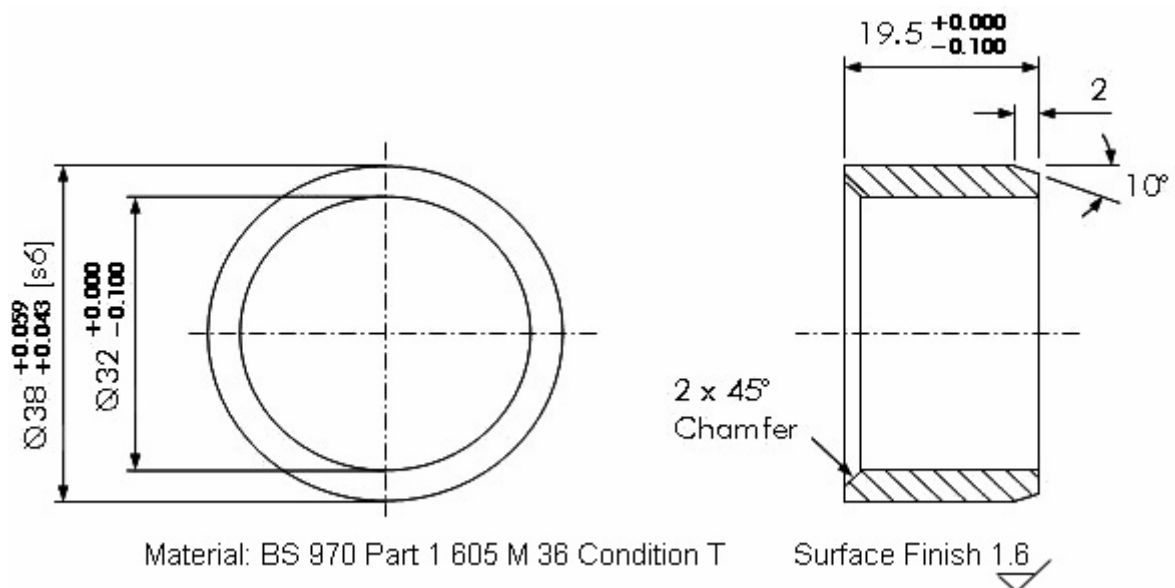

Figure 4: Reclamation Bush
5. Manufacture a bush as shown in Figure 4.